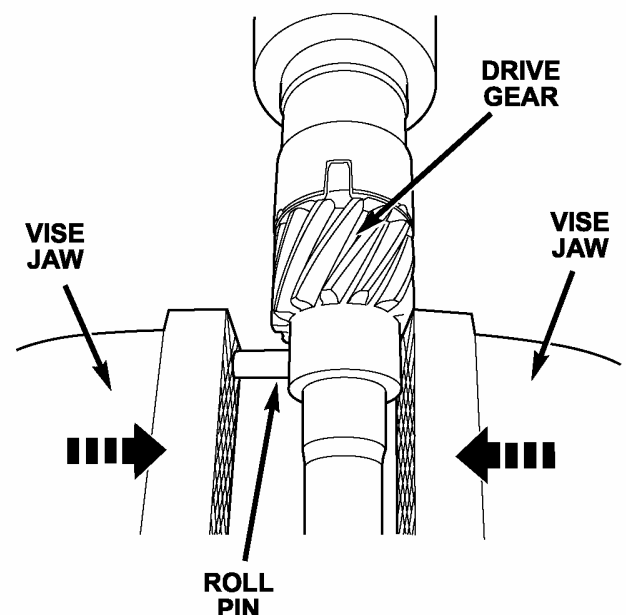

Figure 5
12. Install the new roll pin by lightly tapping the pin into the drive gear. Use a vise to press the roll pin flush to the drive gear surface (Figure 5).